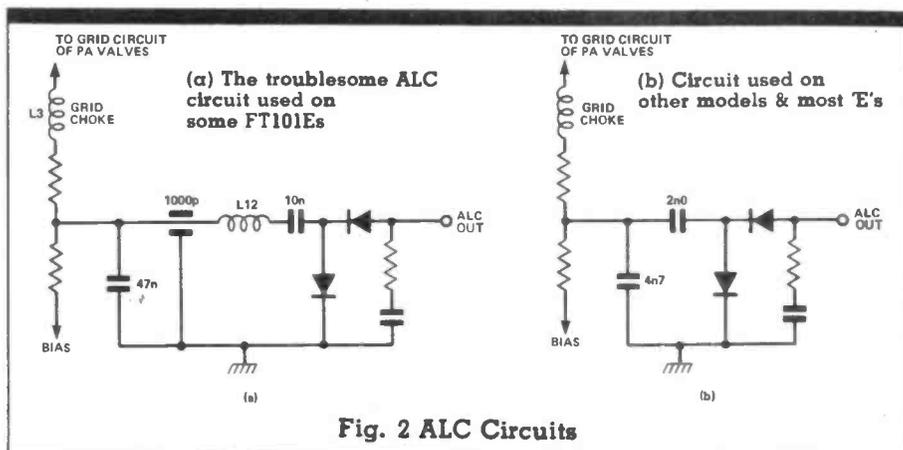

Fig. 2 ALC Circuits
The FT101 uses a classic double superhet arrangement with a crystal controlled high frequency oscillator. This type of circuitry was used by many rigs of it's era, such as the TS510 and TS520 by Trio/Kenwood and the FT560 and FT401 by Yaesu to name but a few of dozens. The simplified block diagram in Fig. 2 shows the FT101 operating 15 metre band, and using this example let us follow the signal path through the transmitter.
**ALC too active on one or more bands on some FT101's.** The trouble here is usually caused by the radio frequency choke L12 picking up RF from the PA coil. The simple cure is to replace the choke with a 2.2K resistor. Only a limited number of FT101Es used this extra choke L12. Later FT101Es reverted back to the original circuit, see Fig. 2.